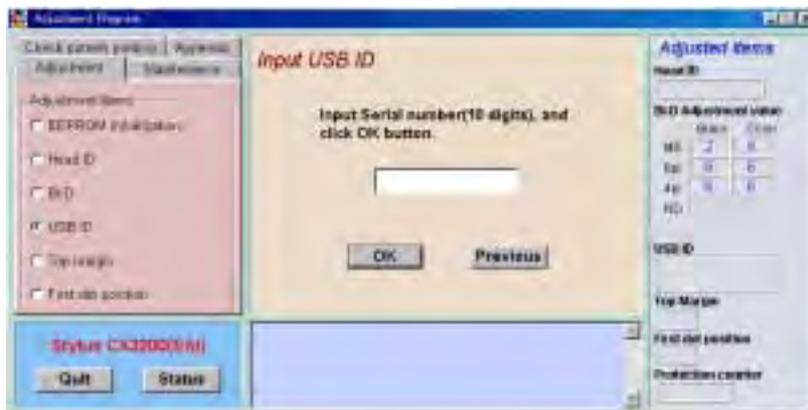

Figure 5-9. USB ID Input
1. Click the item for which the adjustment is to be made and click the [OK] button. When you select [USB ID], the set value is indicated at the lower center of the screen. When you select [USB ID Change], the screen as shown Figure 5-9 below is displayed and the Head ID can be input.